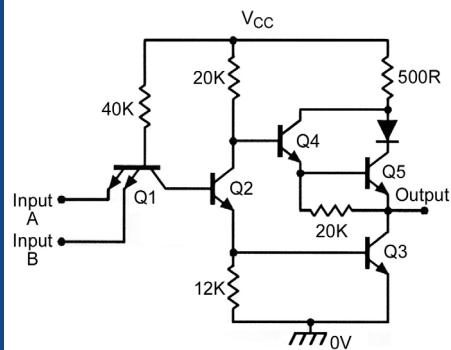

FIGURE 4. Circuit of a low-power (L) TTL 74L00 two-input NAND gate.
Low-Power (L) TTL (now obsolete) — Low-power TTL is a modified version of the standard type, with its resistance values greatly increased to give a dramatic reduction in power consumption at the expense of reduced speed. Figure 4 shows the circuit of a 74L00 two-input NAND gate. Its power consumption is 1 mW, and its propagation delay is typically 33 nS.